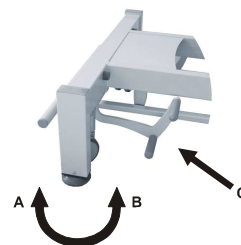

fig 4 – Moving the THERAPIST table
1. Therapist table with the F4 frame type has a foot lever (see C in fig. 4) which can be set in two positions:
- WORK (A), with the table resting on its feet, which can be adjusted for levelling (by screwing the foot in and out – see section 6.1)
- TRANSPORT (B), with the table resting on 4 castors enabling it to be transported